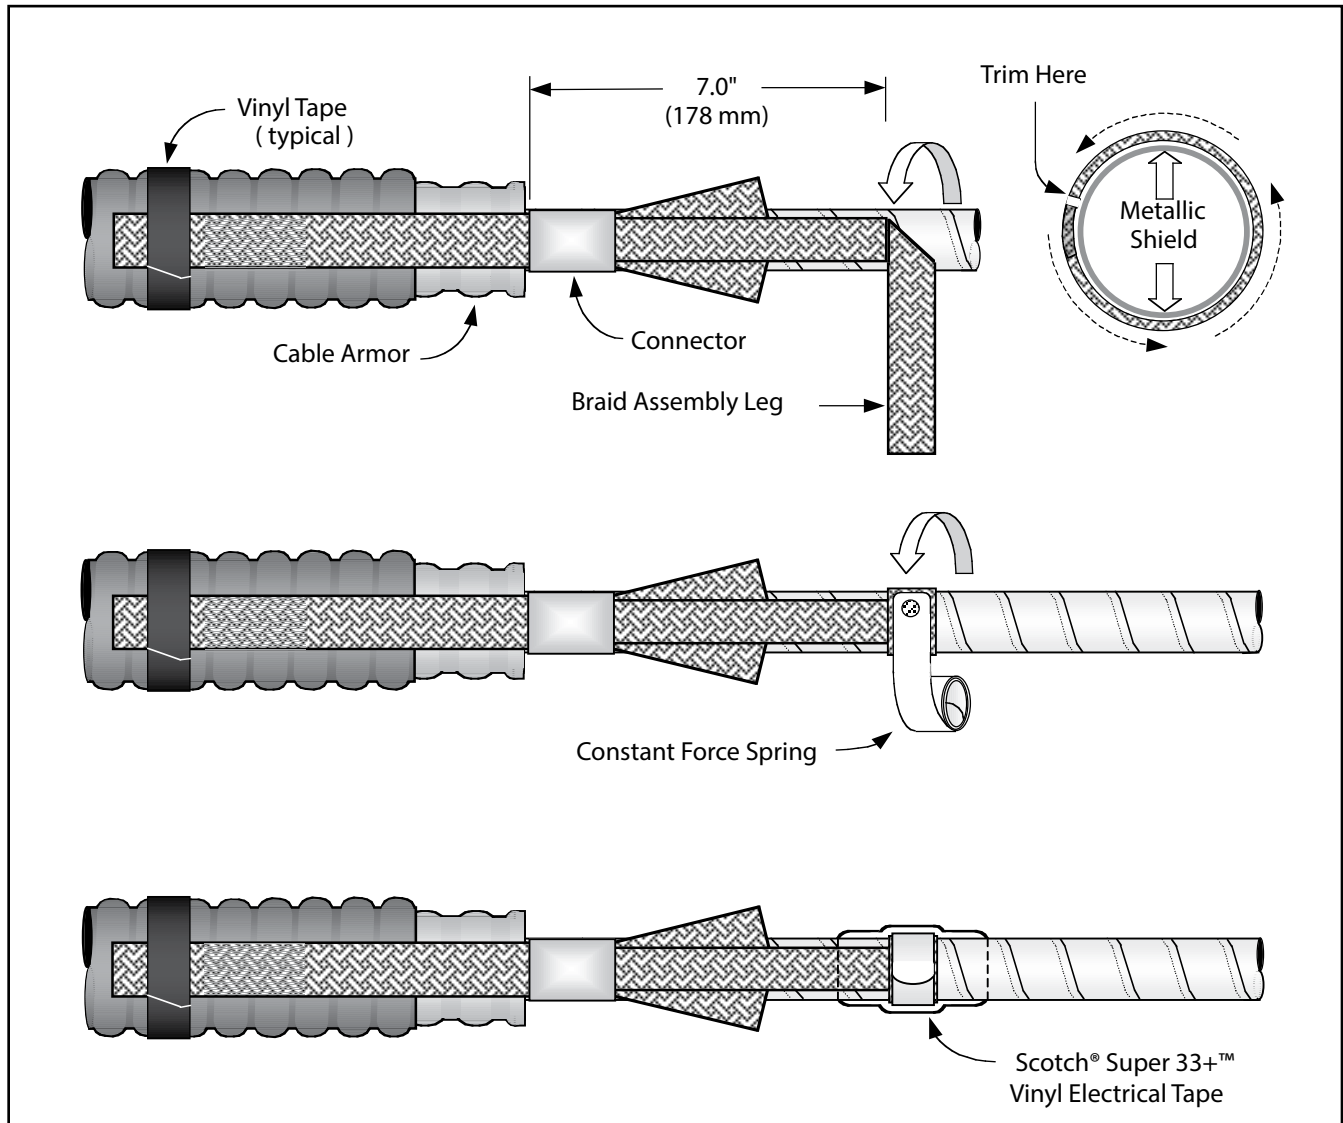

Figure 2
2.1 Position ground braid assembly over cable with assembly connector aligned to edge of armor (*Figure 2*).
Hint: Use temporary vinyl tape wraps as needed to assist in holding braid assembly to cable (*Figure 2*).
(a.) Short (Center) Braid Tail – Position ground braid assembly as shown (*Figure 2*). Wrap short, center ground braid tail around metallic shield of first cable core. Trim excess braid length to prevent overlap (*Figure 2*). Secure ground braid to cable metallic shield using small constant-force spring (*Figure 2*). Spring and braid leg should be wrapped in the same direction. Cinch (twist with hand) constant-force springs to tighten.
2.3 Apply two highly-stretched half-lapped layers of electrical grade vinyl tape over constant force springs (*Figure 2*).